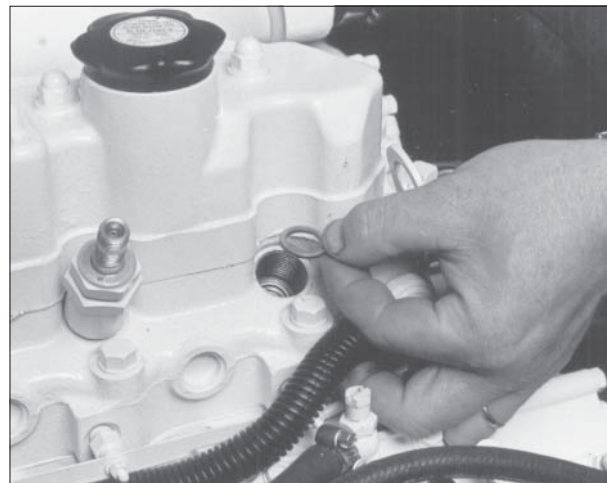

Figure 17: Remove and replace copper sealing washer.
- f. After removing the injectors, discard the copper sealing washers from the injector hole in the head (Figure 17). Cover holes to prevent dirt and debris from entering the cylinders.
- a. Install a new copper sealing washer in each injector hole (Figure 17).